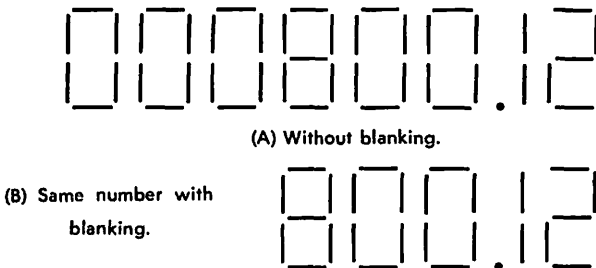

Fig. 8-4. Leading-zero blanking improves display appearance, minimizes errors, and reduces standby power.
*Leading-zero blanking* is a way of lopping off all the 0's to the left of the first significant digit in a display. Fig. 8-4 shows how much the appearance of a display is improved in this manner. The technique also minimizes errors, particularly when there are other 0's in a number, and saves on supply power. The 7447 decoder/driver provides for automatic leading-zero elimination, as do several other decoder systems. If the leading-edge blanking is not available, you can add it